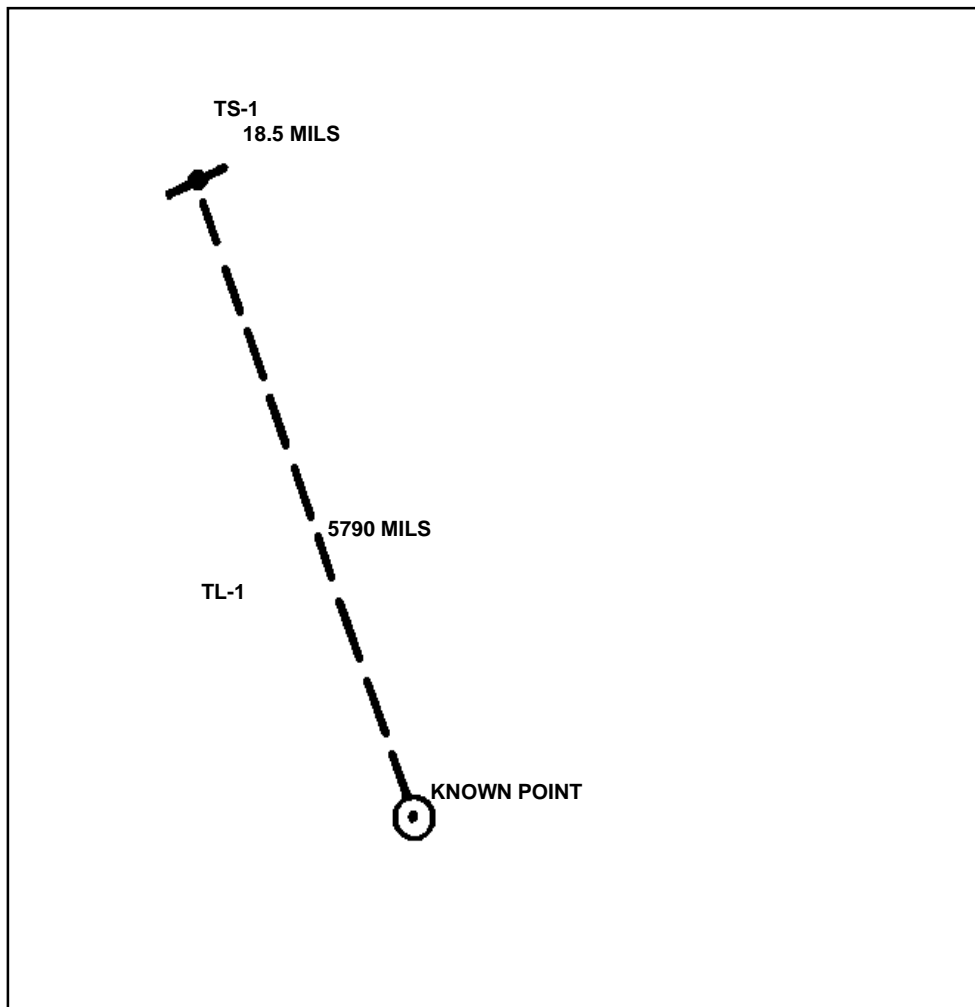

Figure C-8. Traverse leg 1.
d. The "circle" man then rotates the azimuth motion (upper motion) until the vertical crossline in the telescope is on the center of the post. He records the azimuth to the post and labels it traverse leg 1 (TL-1) (Figure C-8).
f. The "circle" man measures the mil angle between the two strips of tape on the post (subtense bar) and records the mil reading along with the azimuth to TS-1 (Figure C-8).